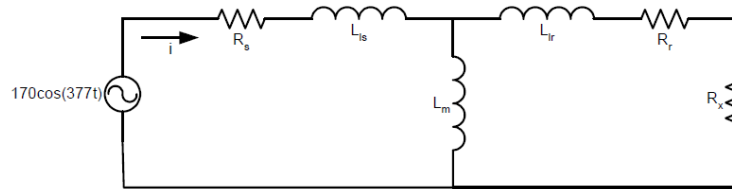

Figure 3.2 A Circuit model for one phase of an induction motor being driven by the utility
2. Figure 3.2 shows a circuit model for the utility supplying one phase of an ac induction motor. The motor system parameters are $R_s = 0.08 \, \Omega$, $L_{ls} = 1 \, \text{mH}$, $L_m = 40 \, \text{mH}$, $L_{lr} = 1 \, \text{mH}$, $R_r = 0.1 \, \Omega$, and $R_x = 33 \, \Omega$. If the utility voltage is $170 \cos(377t)$, i) what is the current into the motor? and ii) At what power factor is the motor operating?